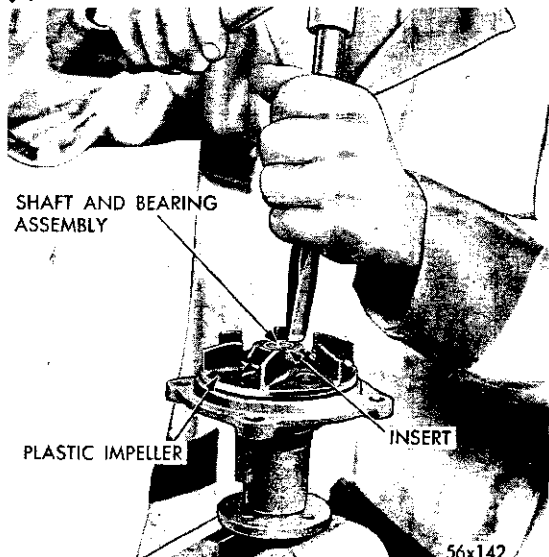

Fig. 4—Removing the Plastic Impeller
- (1) Support the pump body on the hub and remove the impeller by breaking the plastic away from the metal insert, as shown in Figure 4.
- (2) Remove the impeller metal insert using a chisel and hammer.